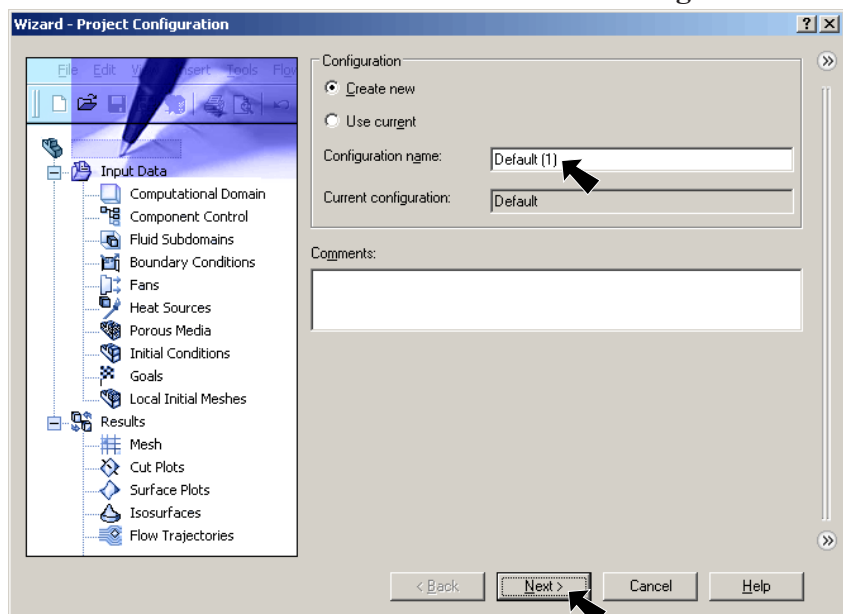

Fig. 2
- Step 3. Use **Default** for Configuration name, Fig. 2.